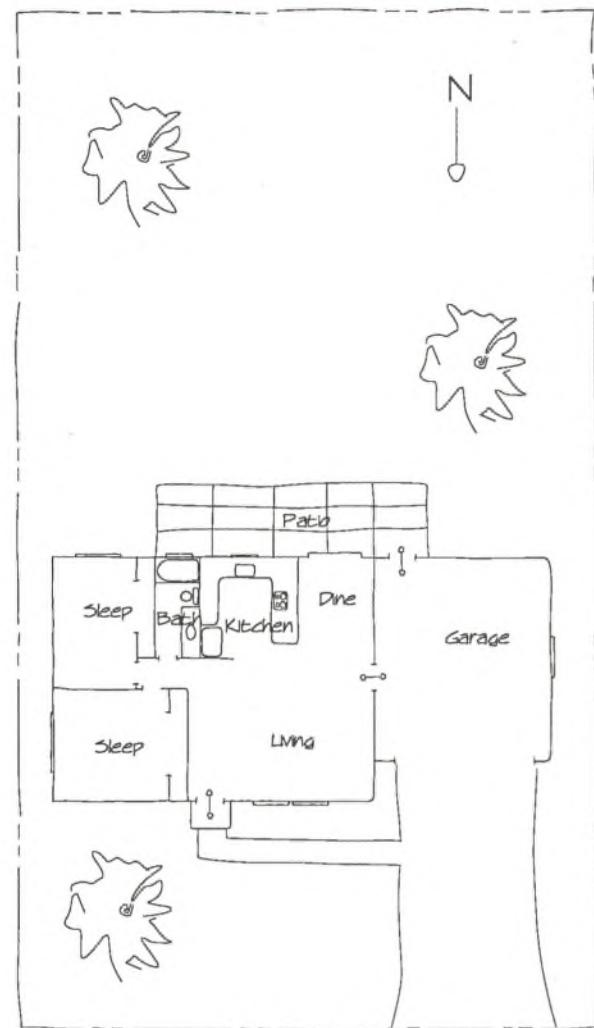

Fig. 7.4 First concept sketch of a floor plan placed on a lot.
Figure 7.4 is a study of a preliminary floor-plan sketch arranged on a lot. In this scheme, the floor plan was studied in relation to the building site.
7. Draw a 1/16" scale sketch of the plot plan for your project and sketch your floor plan on the lot drawing. (Refer to Fig. 7.4.)